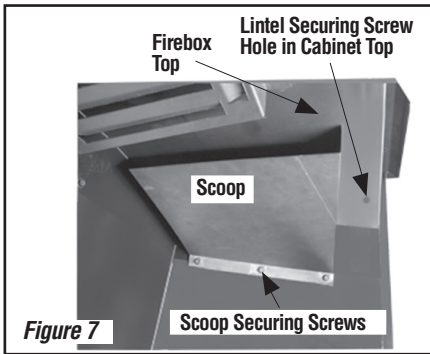

Figure 7
- 2 - Remove the lintel securing screws (3) and then remove the lintel. One of the lintel cabinet top holes is shown in Figure 7).
- 3 - Remove the scoop securing screws (3) and then remove the scoop. See Figure 7.